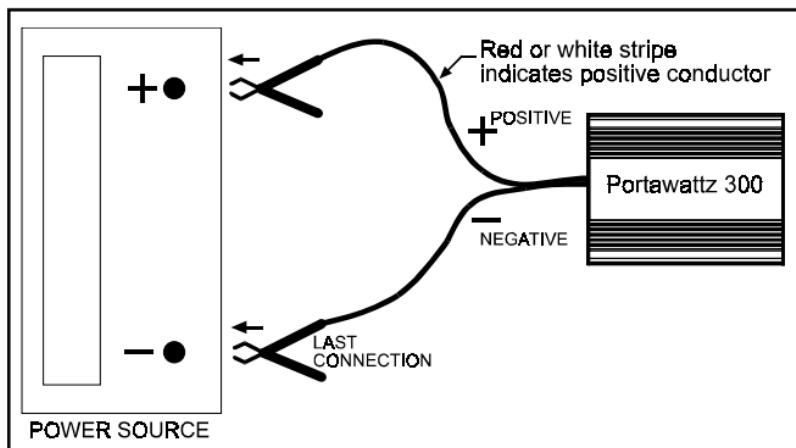

Figure 4. Temporary Connection to Power Source
**For temporary connections** (see Figure 4):